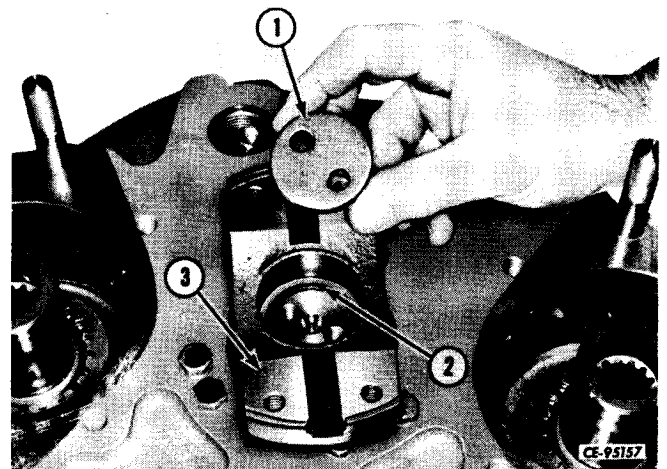

Figure 3-4
Remove the cap screws that secure the clamp plate (1, Fig. 3-4) to the output shaft. Remove the "O"-ring (2) from the yoke bore. Remove the yoke (3). Discard the "O"-ring.